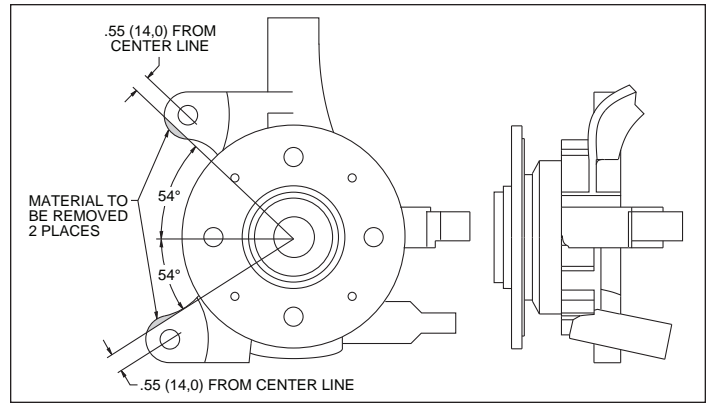

Figure 3. Spindle Modifications
- There are spindle modifications that need to be performed before installation of the Wilwood caliper bracket. Please reference figure 3, page 4. These modifications should be performed by a qualified machinist.
- These modifications should be performed by a qualified machinist. Refer to figure 3, right. Only one view of the spindle is shown, but the modifications need to be performed on both spindles.
- Some material must be removed from the caliper mounting lugs on the OE spindle until .55" (14,0 mm) remains between the center bolt hole and the outer edge of the lug (figure 3). After removal, be sure the area is free of sharp edges or burrs. With the caliper and mount bracket in place, check to be sure there is no interference between the mounting lugs on the spindle and the caliper, or caliper bracket.